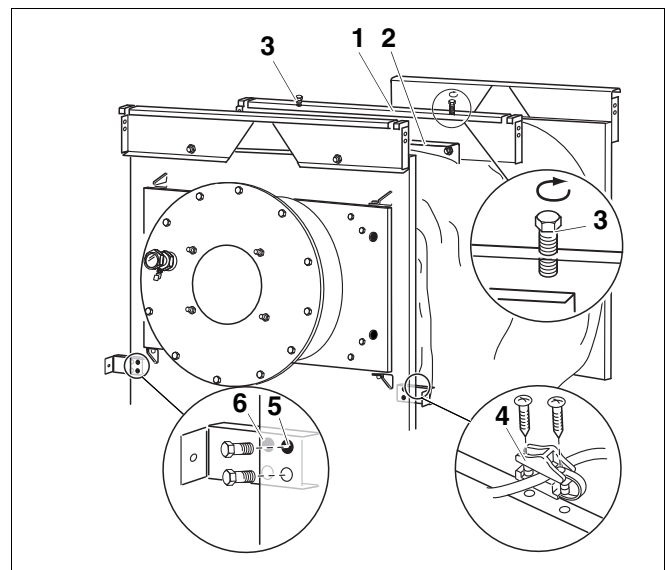

Fig. 16 Strain relief clamp
- Lightly screw in 2 screws M8 x 80 (Fig. 16, [3], page 23) down into the middle connection plate (Fig. 16, [1], page 23).
- Adjust position of side panel using screws (Fig. 16, [3] on page 23).